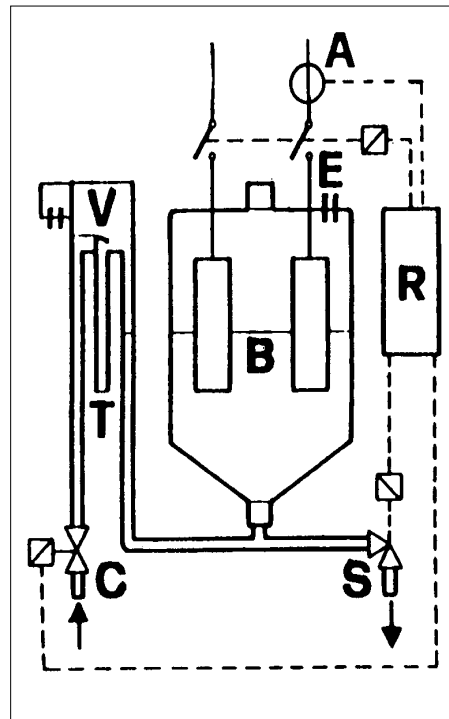

Figure 28
Sequence of Operation. (Figure 28) On a call for humidification, the controller (R) will activate the power contactor (A) in the humidifier to put power to the electrodes in the steam generating cylinder (B). After a few seconds, the fill valve (C) will be activated for a minimum of several seconds to admit water to the fill cup (V) and read the conductivity (T). The fill valve will remain open until either the desired amperage draw is reached or the water level reaches the cylinder full probes (E). Boiling will begin and steam will flow to the duct distributor pipes or to the Room Distribution Unit. As water is boiled into steam, the water level will reduce,